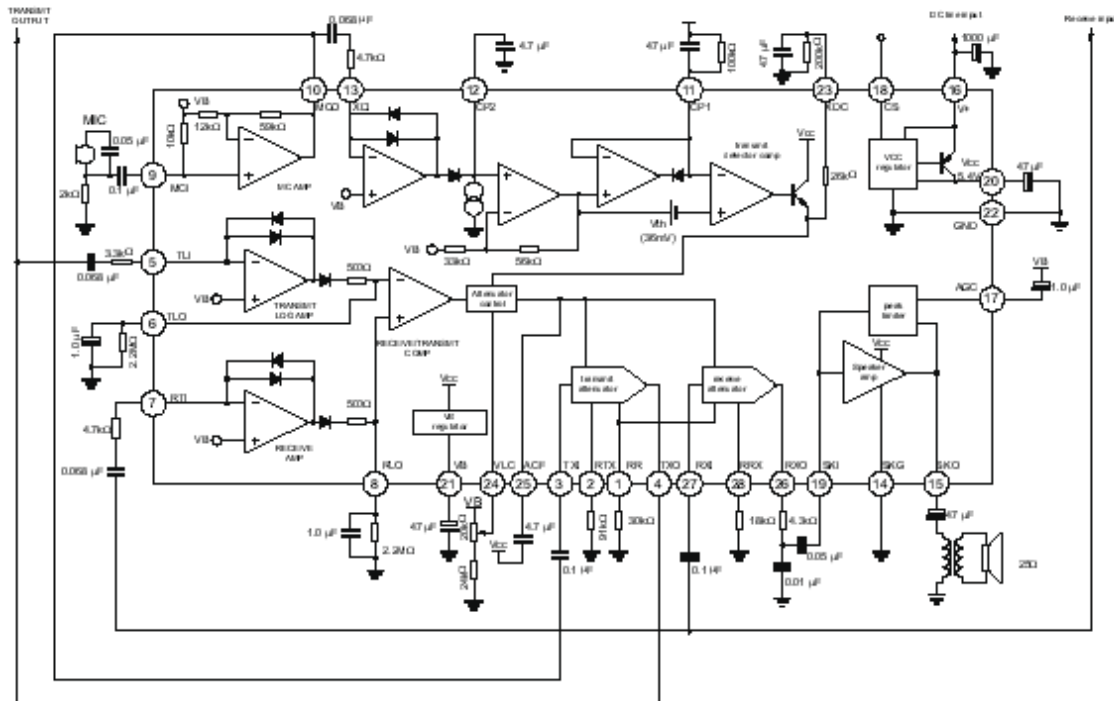

Fig 1 Test circuit
6. DESIGN GUIDELINES(REF TO FIG. 1)
The input impedance of the attenuators (at TXI and RXI) is typically 5.0 k Ω , and the maximum input signal which will not cause output distortion is 250 mVrms(707 mVP-P). The 4300 ohm resistor and 0.01 uF capacitor at RXO (in Figure 1) filters out high frequency components in the receive path. This helps minimize high frequency acoustic feedback problems. The filter's insertion loss is 1.5 dB at 1.0 kHz. The outputs of the attenuators are inverted from their inputs.
The transmit detector circuit, also known as the background noise monitor, distinguishes speech (which consists of bursts) from the background noise (a relatively constant signal). It does this by storing a voltage level, representative of the average background noise, in the capacitor at CP1 (Pin 11). The resistor and capacitor at this pin have a time constant of approximately 5 seconds (in Figure 1). The voltage at Pin 11 is applied to the inverting input of the Transmit Detector Comparator. In the absence of speech signals, the noninverting input receives the same voltage level minus an offset of 36 mV. In this condition, the output of the comparator will be low, the output transistor turned off, and the voltage at XDC (Pin 23) will be at ground. If the Tx-Rx comparator is in the transmit position, the attenuators will be in the idle mode ($\Delta V_{acf} = 75$ mV). When speech is presented to the microphone, the signal burst appearing at XDI reaches the noninverting input of the transmit detector comparator before the voltage at the inverting input can change, causing the output to switch high, driving the voltage at XDC up to approximately 4 V. This high level causes the attenuator control block to switch the attenuators from the idle mode to the transmit mode (assuming the Tx-Rx comparator is in the transmit mode).